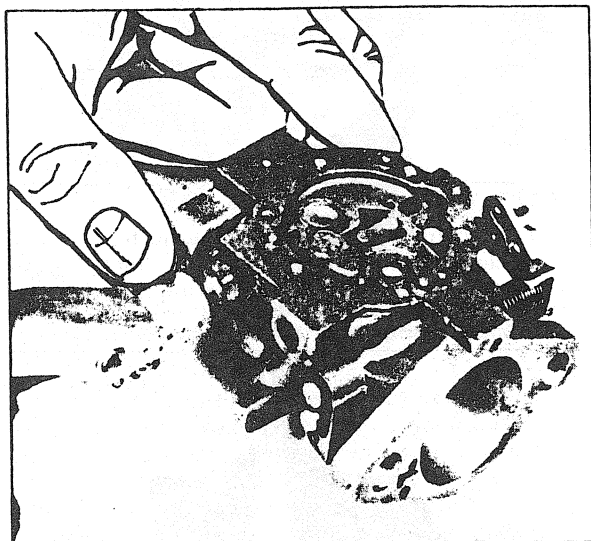

FIGURE 13
■ Leak test the carburetor by allowing controlled compressed air (max. 50 p.s.i.) into the idle then high speed mixture holes. The carburetor must be inverted, welch plugs up, and a drop or two (2) of oil laying over each plug. If the plug(s) are seated incorrectly, small air bubbles will appear around the plug diameter. In such a case, reseal the plug(s) using the ball peen hammers then leak test once more. (Fig. 13).